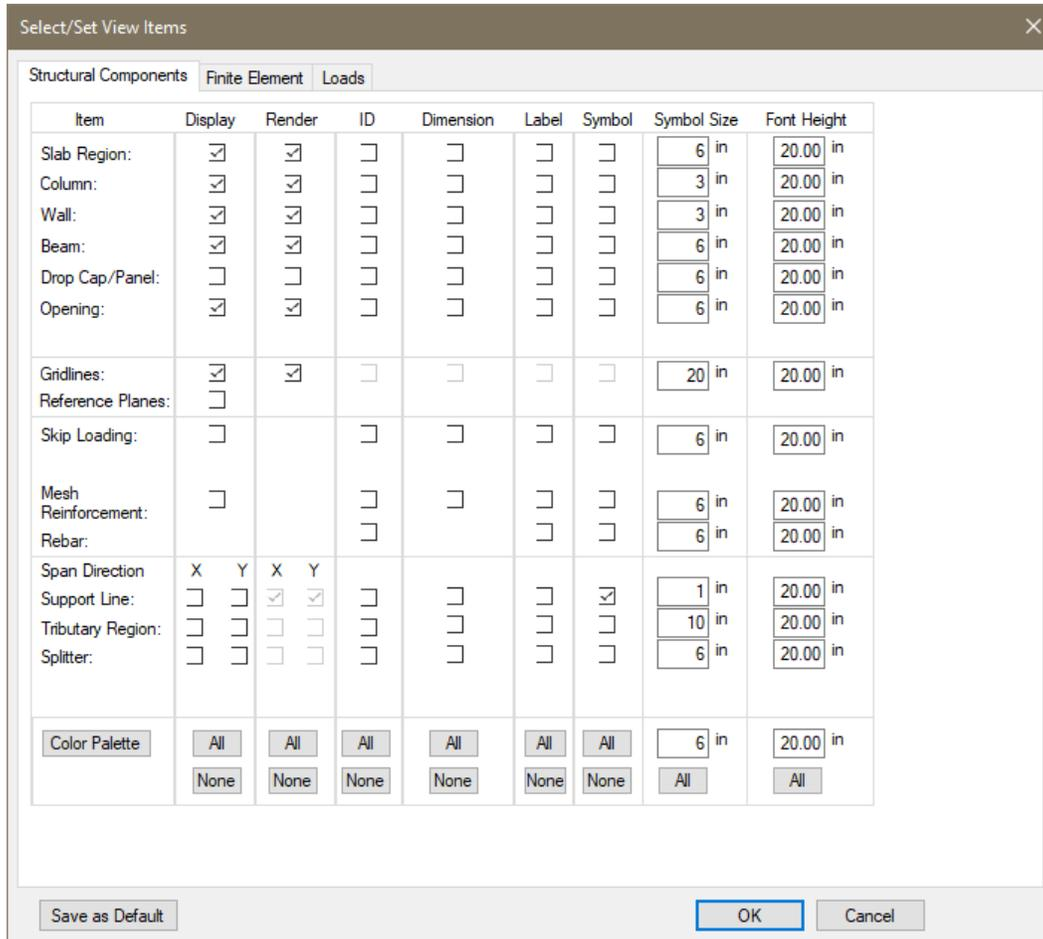

Figure 8-73
- On the *Structural Components* tab, make the selections as shown in **FIGURE 8-73**.